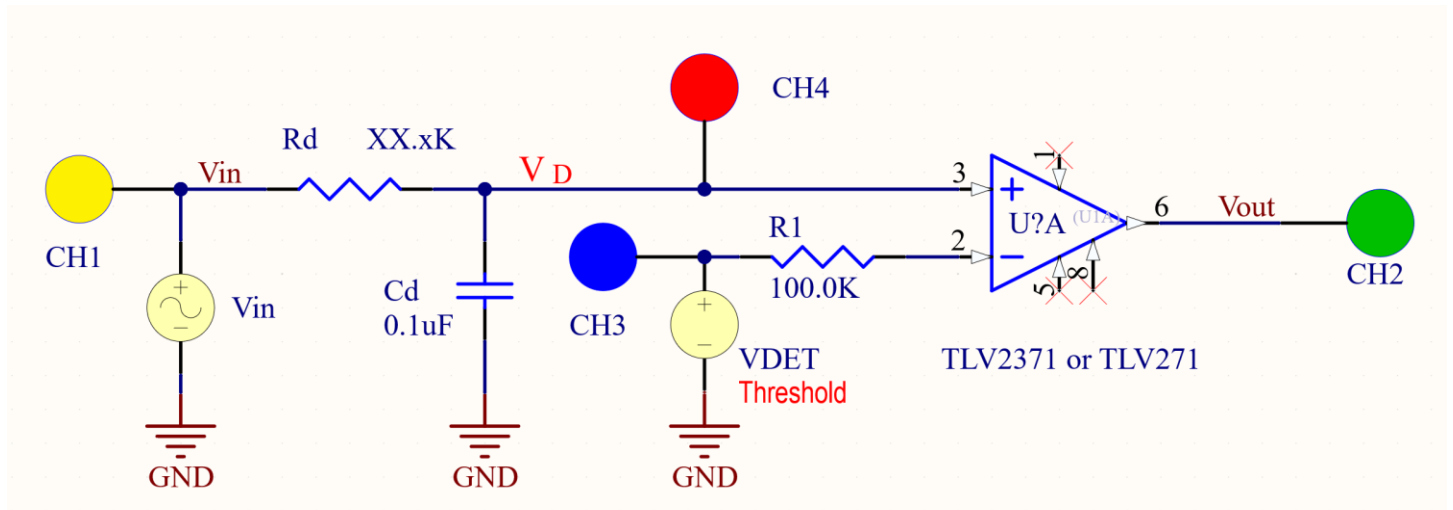

Figure 6: Voltage detector with input frequency discriminator. Power supply connection not shown but you still need it!
- Your circuit should look like Fig. 6 now.
The final requirement of the design has you adding an LED indicator to the circuit so the LED is emitting light when the output is high. The circuit with this addition is shown in Figure 6. Note CH3 of the scope is now connected to the resistor in series with the LED. The power supply connections are not shown and they are still needed.